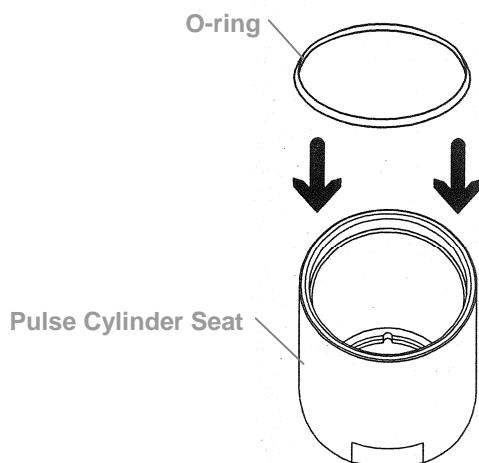
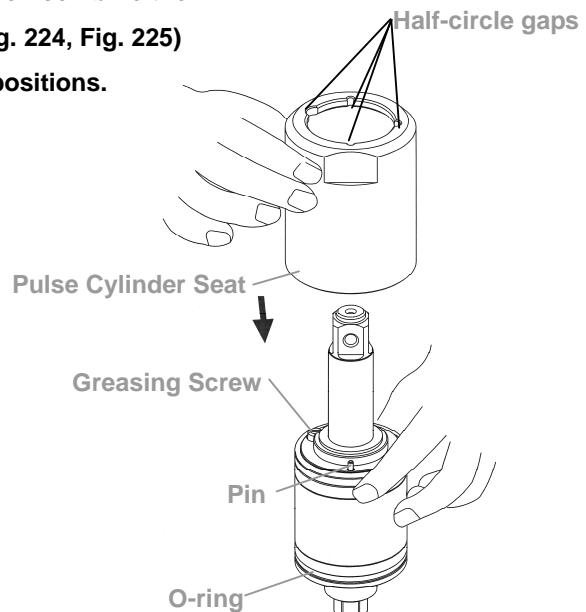

Fig. 224
Fig. 225
- ① Place the o-ring inside the bottom of the pulse cylinder seat, then combine the pulse cylinder seat with the assembled pulse cylinder unit. (Fig. 224, Fig. 225)